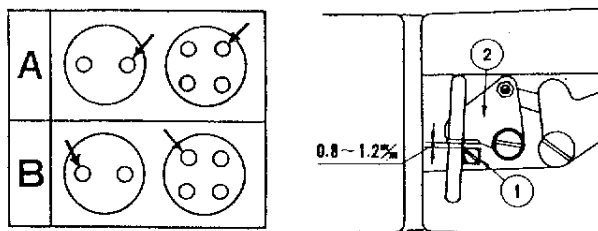

Fig. 10
CE REGLAGE EST EFFECTUE EN DESSERANT LA VIS 1 DU BLOC ARRIERE DE LA BARRE DE TENSION (2) EN INSERANT UN TOURNEVIS DANS LE TROU SITUE A LA PARTIE GAUCHE DE LA PLAQUE FRONTALE ET EN DEPLACANT LE BLOC DE GAUCHE A DROITE. DEPLACE VERS LA DROITE, LA LONGUEUR DE FIL EST AUGMENTEE ET DIMINUEE EN LE DEPLACANT VERS LA GAUCHE. LORSQU'A LA FIN D'UN CYCLE, L'EXTREMITÉ DU FIL APPARAÎT AU TRAVERS DU TROU - FIG. 10 FLECHE A - DEPLACER VERS LA GAUCHE, SI LE FIL APPARAÎT AU TRAVERS DU TROU - FIG. 10 FLECHE B - DEPLACER VERS LA DROITE, MAIS SANS QUE L'EXTREMITÉ DU FIL DISPARAISSE.